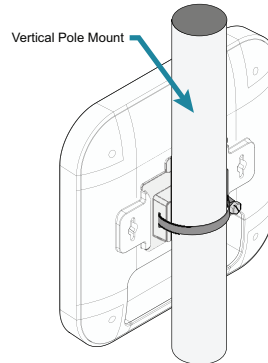

Figure 7. Vertical Pole Mounting of BSAP
2. Wrap the hose strap around the vertical mounting pole and insert the end into the strap lock. Tighten the strap lock to secure the unit to the pole as shown in Figure 7.